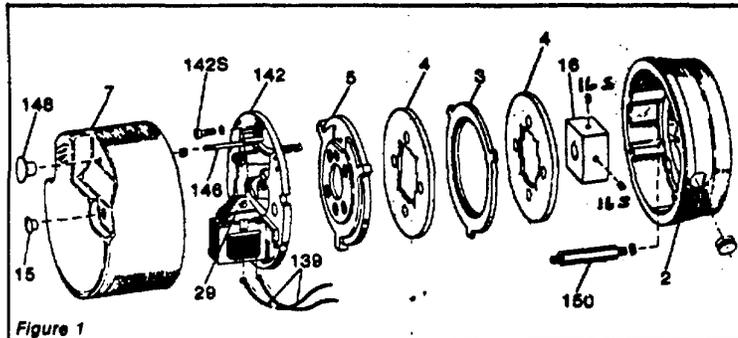

Figure 1
I. Installation procedure - 87,000, 87,400 and 87,600 (Covers 87,100 except endplate (2) mounts to 10 1/2" AK diameter register) (See figure 1)
- A. Remove manual release knob (148) (on pull type), housing nuts (15) and housing (7). Housings equipped with optional side manual release do not have release knob.
- B. Depress solenoid plunger (29) and pull release rod (146) back to lock brake mechanism in manual release position. Tie plunger (29) to frame (79) when manual release rod (146) is not provided.
- C. Remove entire support plate assembly (142) by evenly unscrewing screws (142S). Remove screws and lock washers (142W).
- D. Remove pressure plate (5), friction disc (4), and stationary disc (3).
- E. Attach endplate (2) to NEMA "C" face of motor using four 1/2-13 socket head cap screws (not supplied) torque per manufacturer's specifications. (Head of cap screws must not project above friction surface.) If foot mounted, secure foot mounting bracket to foundation. The use of dowels to insure permanent alignment is recommended. Foot, machine or "C" face mounted brakes must be carefully aligned within .004" on concentricity and face runout. Shaft runout should be within .002" T.I.R. Maximum permissible shaft endfloat is .020".